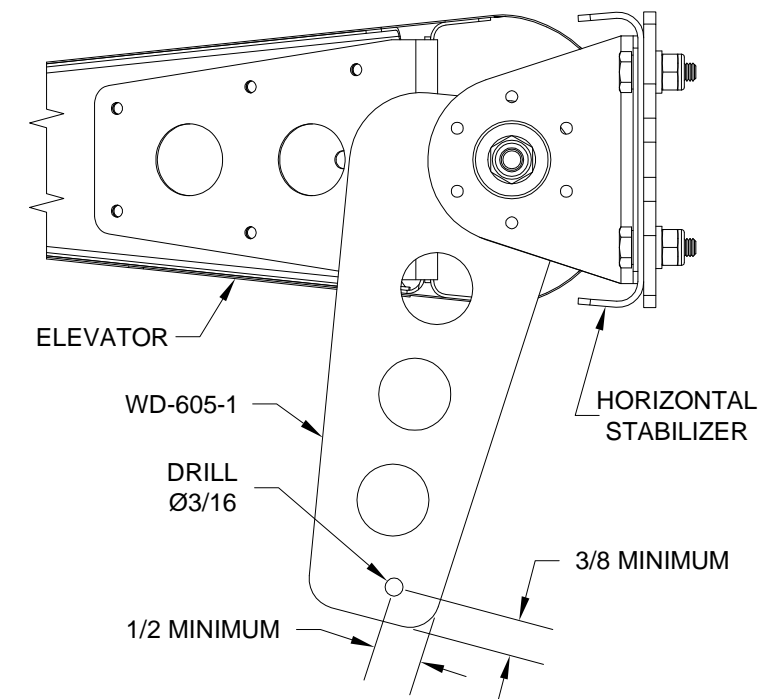

FIGURE 3: ELEVATOR PUSHROD BOLT HOLE
Step 5: Install both right and left elevators to the horizontal stabilizer. See Page 11-2, Figure 3 for hardware call-out. Secure both elevators in the "trail" position by placing strips of duct tape over the gap between the elevator counterbalance arm and the horizontal stabilizer.
Step 7: In the most aft WD-605-1 Elevator horn, locate and drill a 3/16 inch hole as shown in Figure 3.